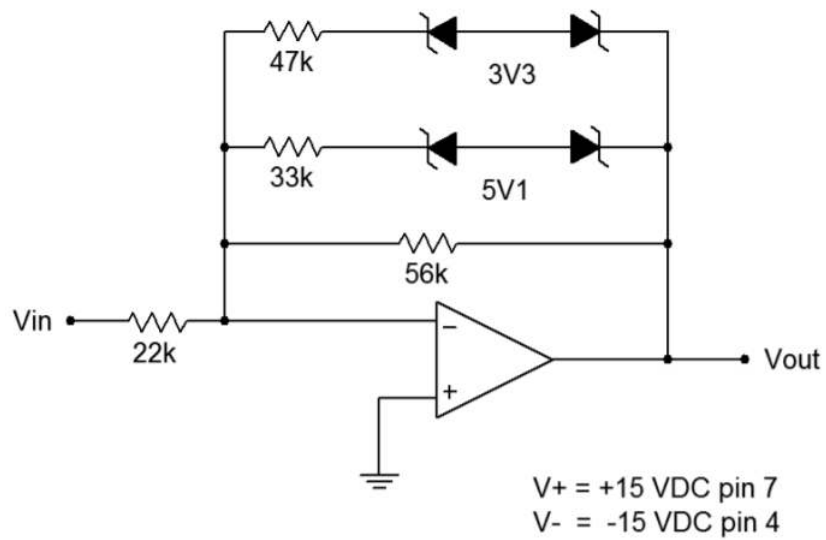

Figure 14.5.2
7. Calculate the break-points and slopes for the input/output transfer curve of the circuit in Figure 14.5.2. Record these values in Table 14.7.2.
8. Assemble the circuit of Figure 14.5.2.
11. Continuing with the circuit of Figure 14.5.2, estimate and then measure the results for each individual error presented in Table 14.7.3.
2. What happens in Figure 14.5.2 when the 33k Ω and 47k Ω are swapped?
4. What is the effect of increasing the 22k Ω in Figure 14.5.2?